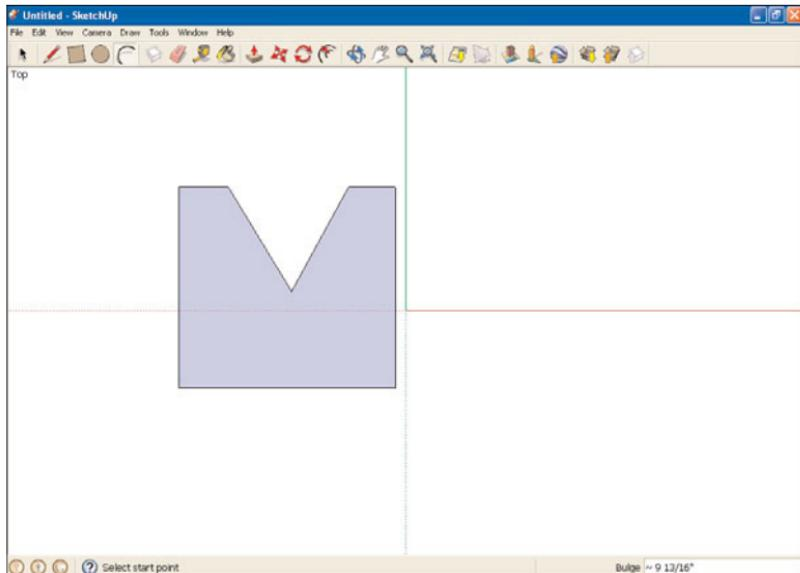

FIGURE 4.2 A shape with an acute angle.
Consider the shape in Figure 4.2. Suppose that you want to round the acute angle in that figure—how would you do it?
2. Draw the surface similar to the one shown in Figure 4.2 with the angle you want to round.